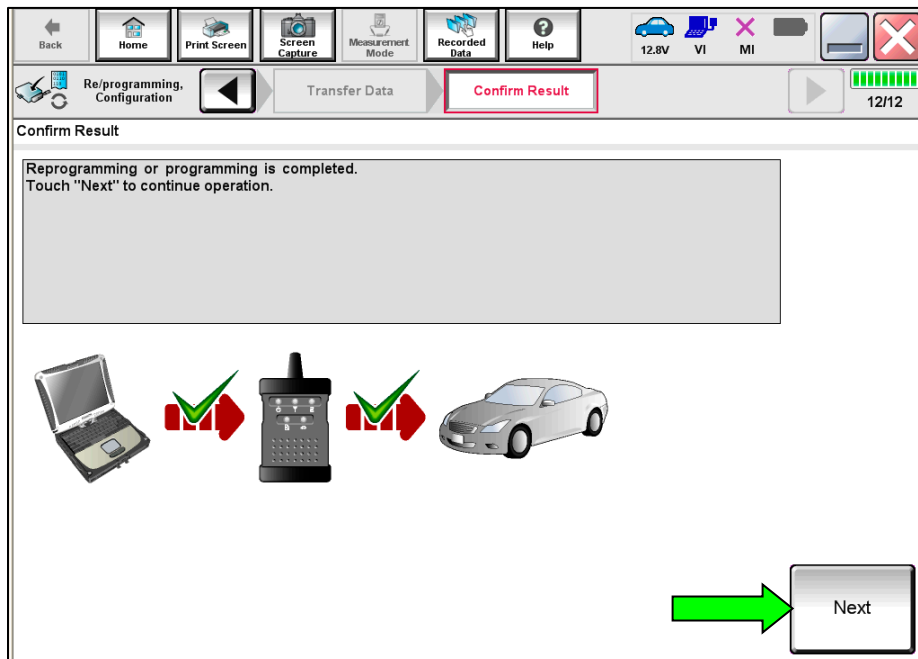

Figure 40
52. Once the screen in Figure 40 displays, the reprogramming is complete. Select **Next**.
HINT: When the screen in Figure 40 displays, HV Battery reprogramming is complete. If the screen in Figure 40 does not display (indicating that reprogramming did not complete), refer to the information on page 37.